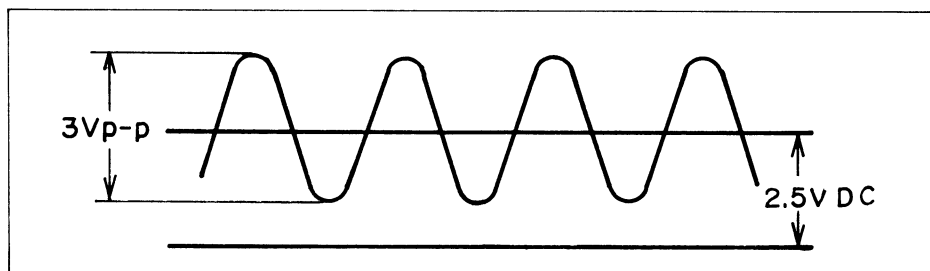

Fig. 5-35. Color lock bias waveform
- Using an oscilloscope, adjust R160 (Sub Color Lock) so that the voltage at the center of 767kHz waveform becomes 2.5 volts DC as shown in Fig. 5-35.